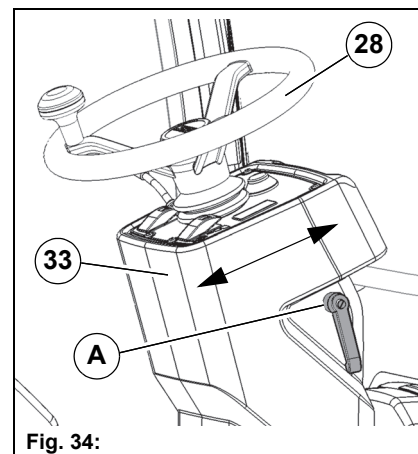

Fig. 34:
- Turn the lever **Fig. 34-A** counter-clockwise until the steering column is unlocked.